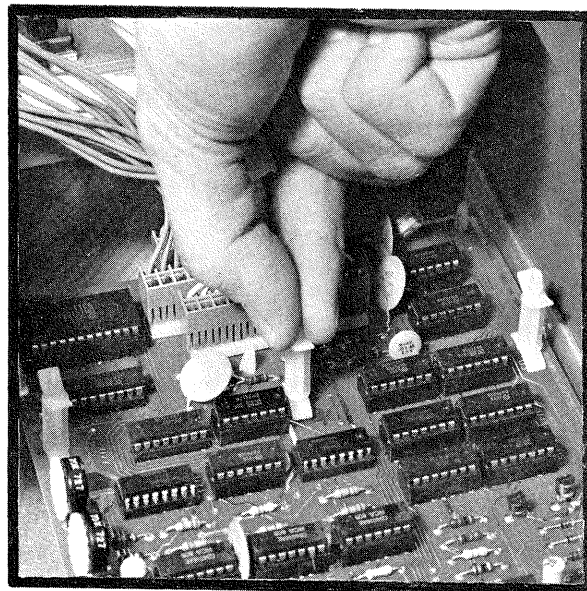

FIGURE 7-27 Insert the Supports in the holes on the Playback PC Board.
Insert the six (6) Plastic Supports (PN DLCBS-14N) in the mounting holes in the Playback PC Board as shown in FIGURE 7-27. See the NOTE below.